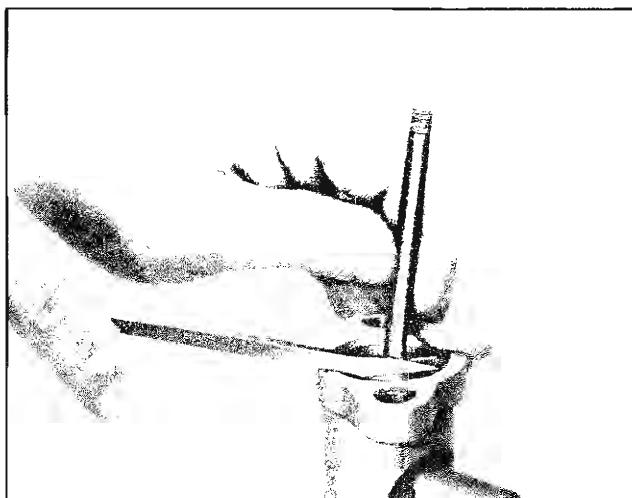

Fig. 9A-37 Removing Adjuster Plug
threaded hole, with washer and nut as extractor (Fig. 9A-41).
3. Install new ports with Tool J-6217 (Fig. 9A-42).